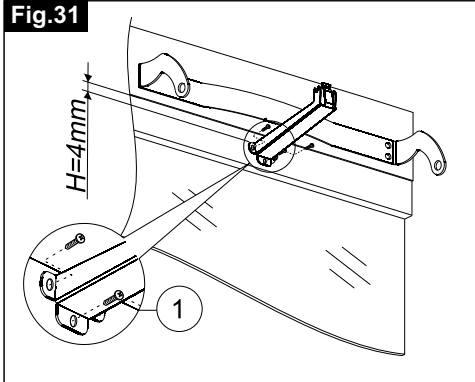

Fig.32
- 7) **Fig.32-** Tighten with the two standard supplied screws (**Ref.1**) the actuator on the bracket connecting it to the window frame;